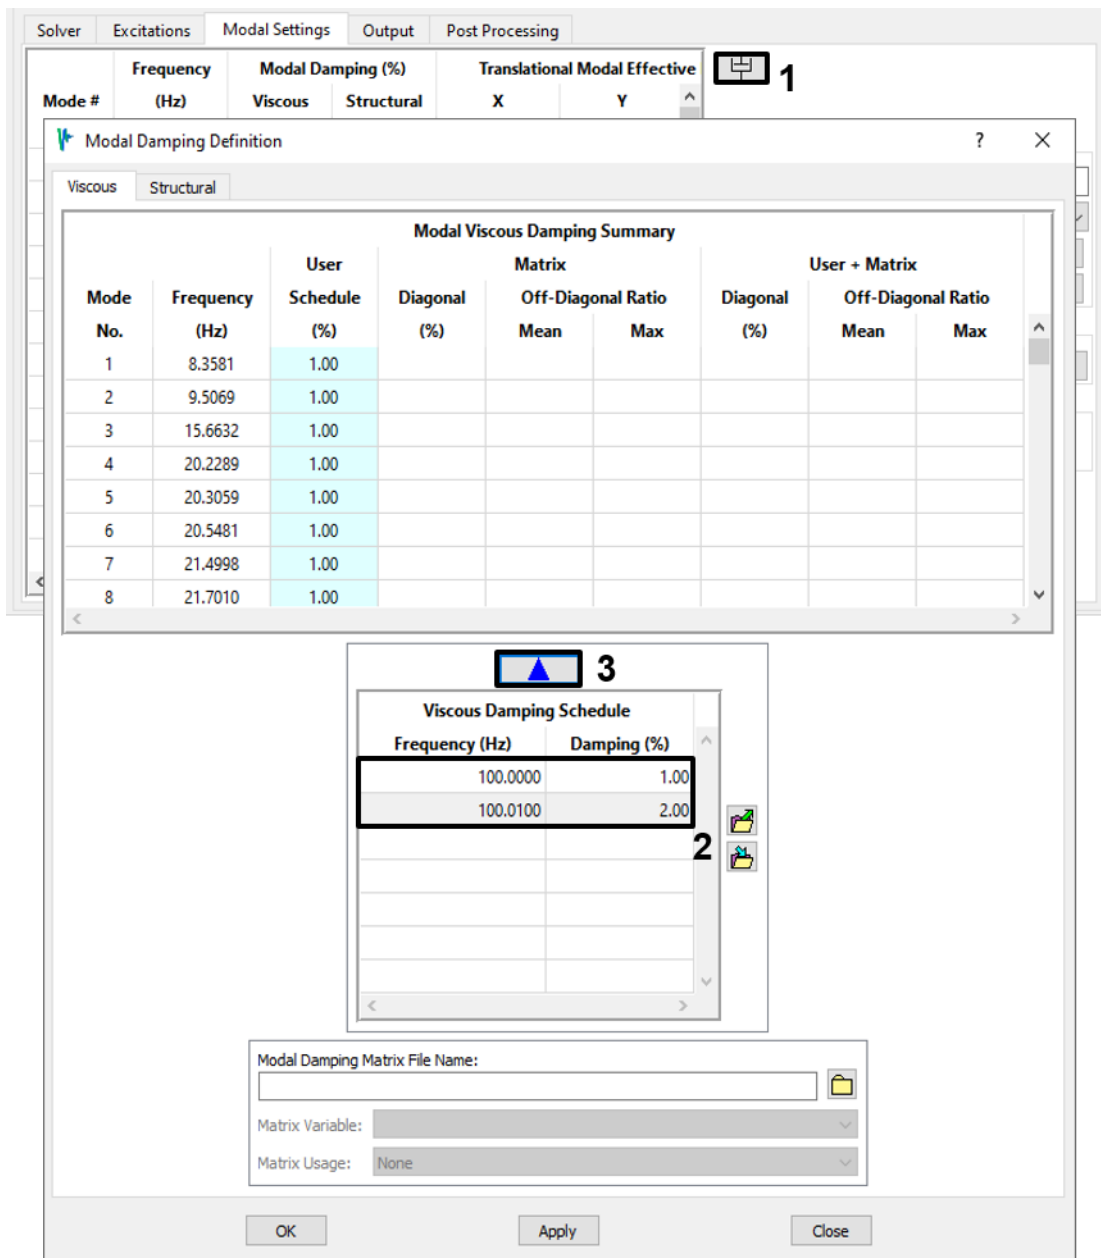

Figure 4-44. Assign damping via the schedule; export the schedule to a text file for later use.
- a. From the *Modal Settings* tab, bring up the *Modal Damping Definition* dialog (Figure 4-44).